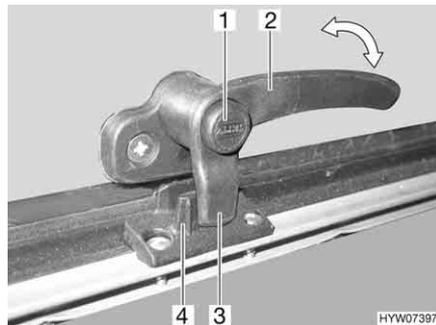
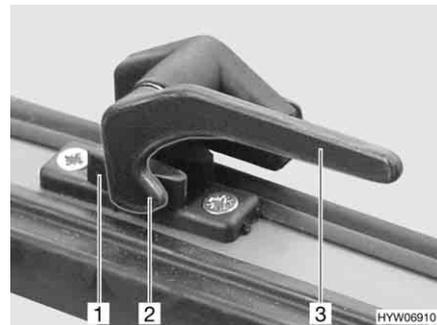

Fig. 52 Catch lever with safety knob in "closed" position
Fig. 53 Catch lever in "closed" position
- Press and hold the security button (Fig. 52,1), if present.
- Turn the catch lever (Fig. 52,2 or Fig. 53,3) a quarter turn towards the centre of the window.
- Turn the catch lever (Fig. 52,2 or Fig. 53,3) a quarter turn towards the window frame. The locking catch (Fig. 52,3 or Fig. 53,2) on the catch lever is entirely on the inner side of the window catch (Fig. 52,4 or Fig. 53,1).
- Firmly closed (Fig. 52 and Fig. 53)